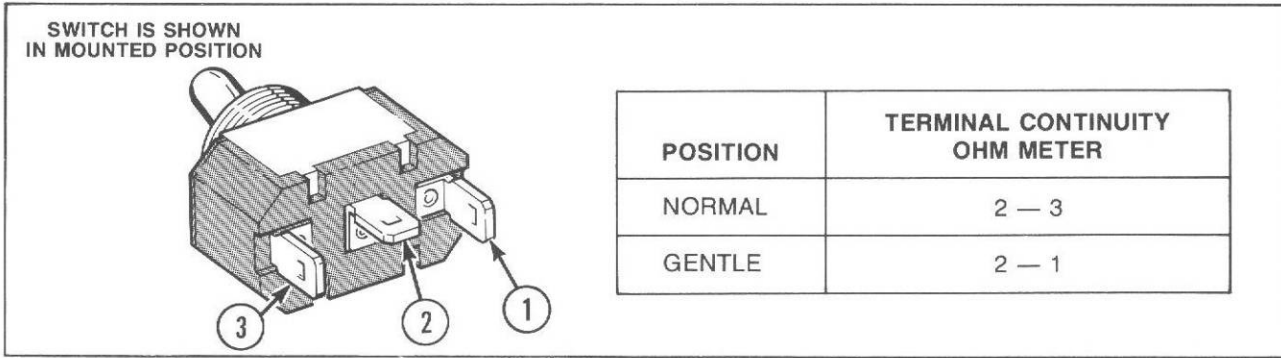

Figure 48
- Apply meter probes to terminals indicated in *Figure 48* for continuity check.